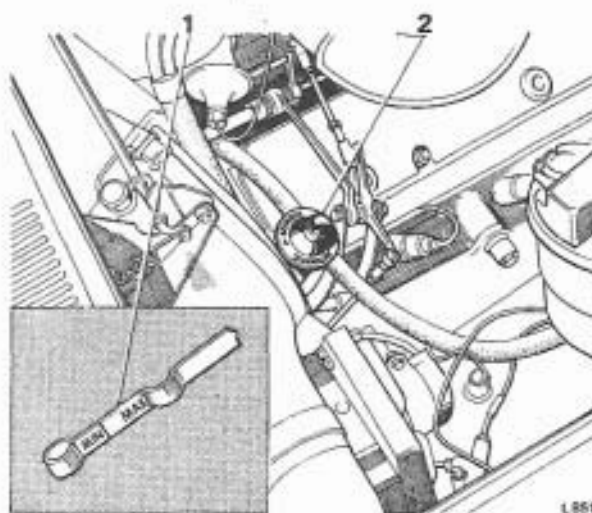

FIG. T4 CHECKING THE OIL LEVEL
- 2 Remove the dipstick (see Fig. T4); clean the dipstick blade before checking the oil level.